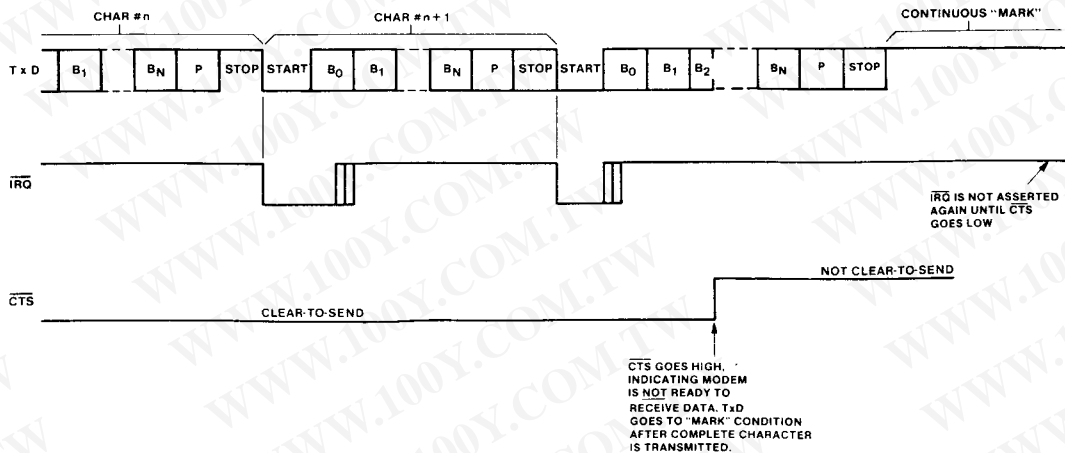

Fig. 10A - Effect of CTS on CDP65C51A transmitter
**Effect of CTS on CDP65C51A Transmitter (Fig. 10A)**